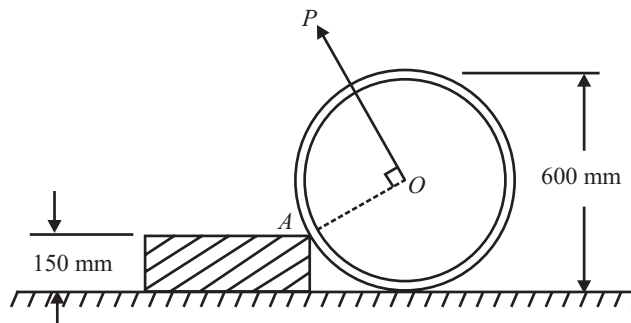

Fig. 7.15
Q. 15: A uniform wheel of 600 mm diameter, weighing 5KN rests against a rigid rectangular block of 150mm height as shown in fig. 7.15. Find the least pull, through the center of the wheel, required just to turn the wheel over the corner A of the block. Also find the reaction of the block. Take the entire surface to be smooth.